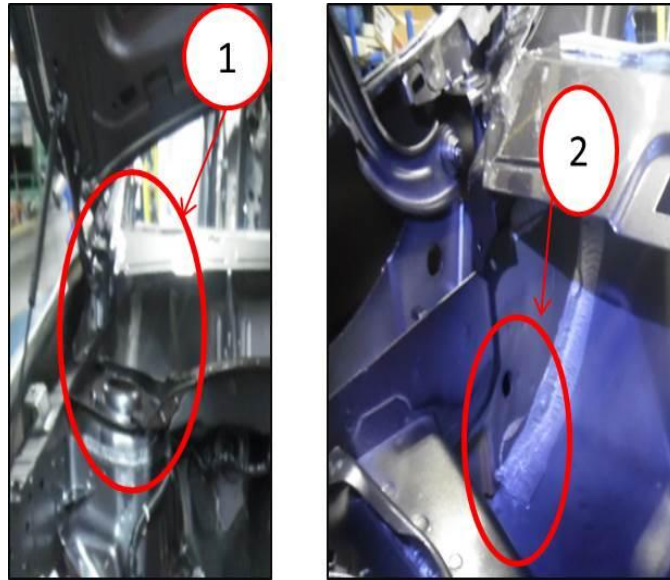

Fig. 7 Plenum Sealant
8. Locate seam of plenum to cowl side (Fig. 7).
11. Apply the sealant to the affected area as shown in (Fig. 7).